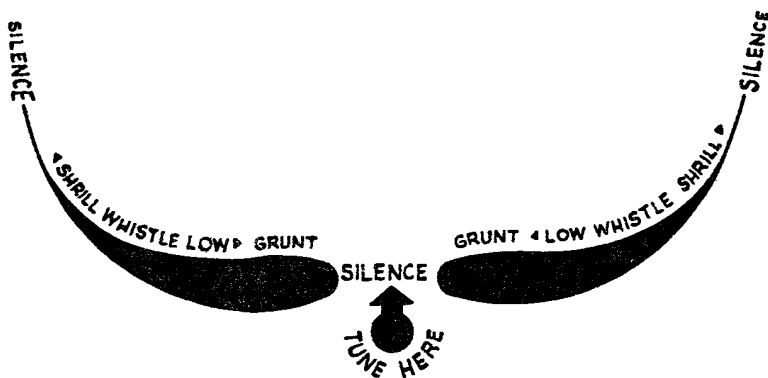

FIG. 5.
- .09 Set EMISSION SWITCH to CW and the NET-NORMAL-REMOTE switch to NET, and tune receiver to the silent point (see fig. 5) adjusting Flick mechanism as before if required. Return NET-NORMAL-REMOTE switch to NORMAL.